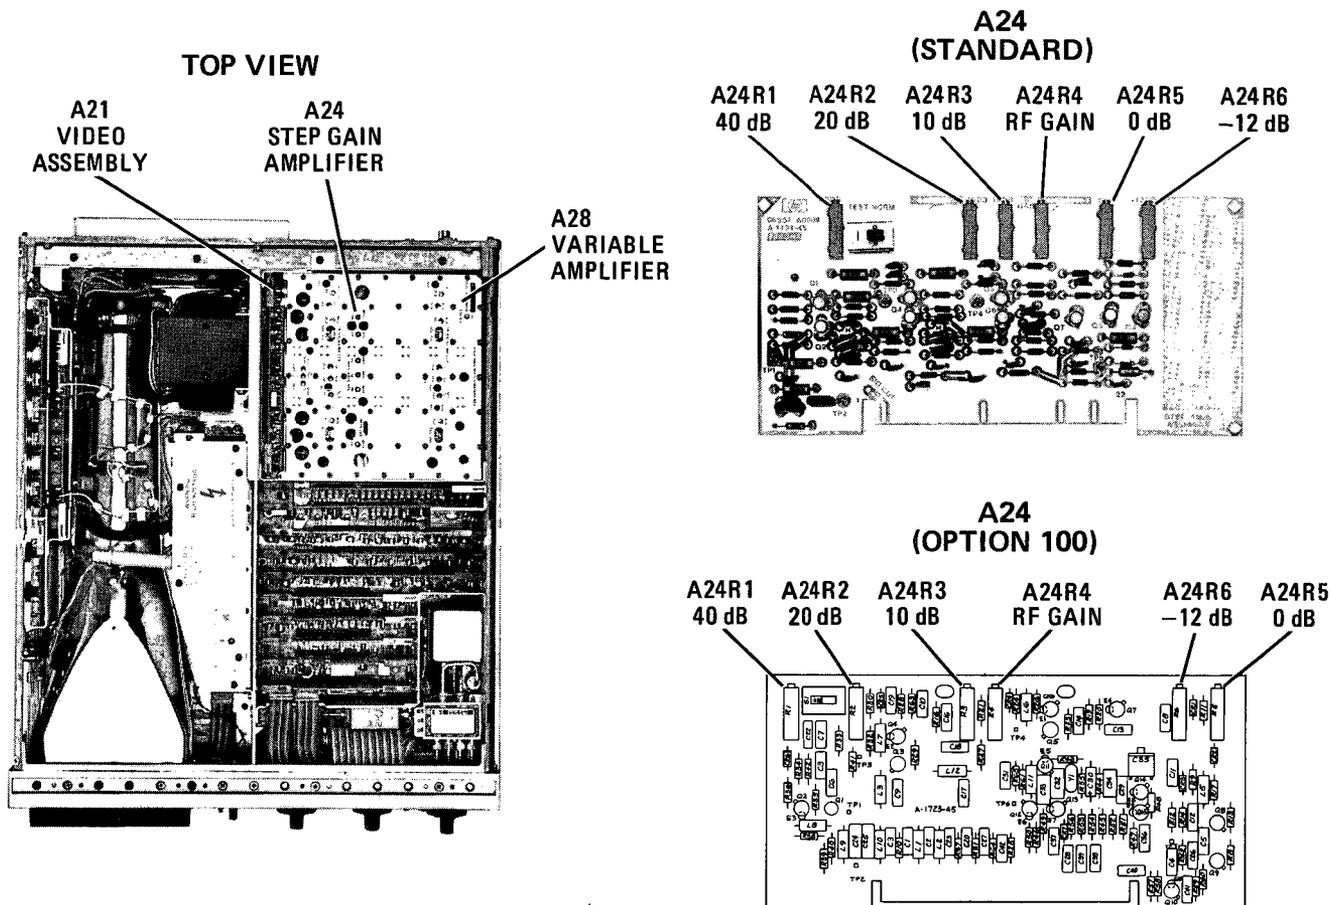

Figure 5-25. Step Gain Adjustment Locations
- f. Adjust A24R6 -12 dB (Figure 5-25) for maximum signal level on CRT display. Then adjust A24R6 counterclockwise to set signal level 0.4 division below maximum.